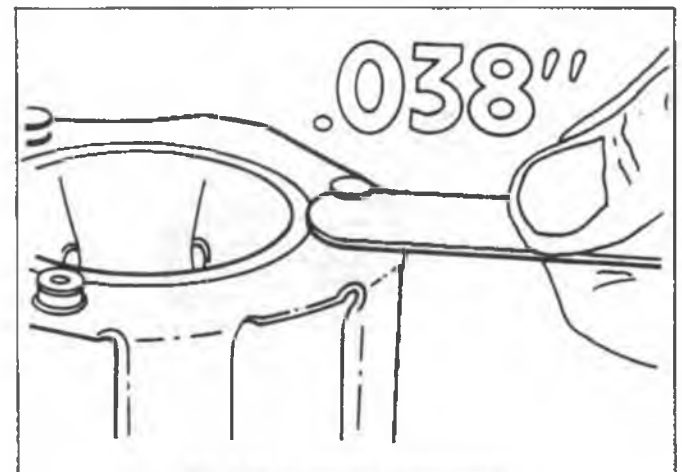

Fig. 2-32 Retainer Pin Clearance
23. Remove governor weight retainer assembly. Inspect the pins on the weight retainer for wear, pins can be worn by the slots in the drive plate after the ring has disintegrated. The base of the pin can be worn $\frac{1}{2}$ the distance to the pin and still be satisfactory as long as there are no sharp edges to cut the ring. Using a .038 feeler gage, check the clearance of the pins. If necessary, use an ignition point file to get acceptable clearance. If the pins are worn excessively, bent, loose or sharp edges cannot be removed, the retainer should be replaced (Fig. 2-32).